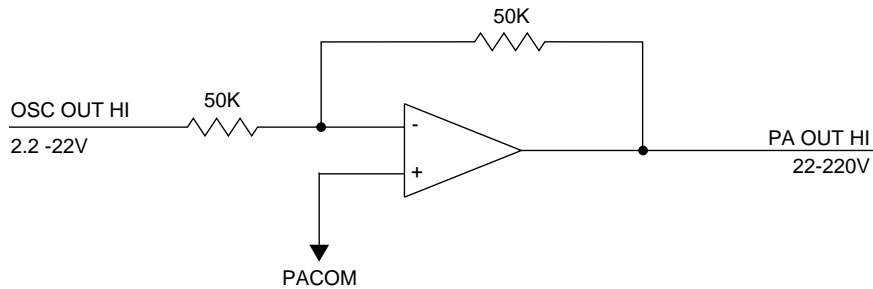

Figure 5-33. Power Amplifier with 5700A Set to 22V at 1 kHz
2. Set the 5700A to 22V at 1 kHz, operate. This configures the Power Amplifier assembly as an amplifier with a gain of -10 as shown in Figure 5-33. Check the input for the correct voltage. Using a DMM, measure the ac voltage at TP3 and verify it is $2.2V \pm 5\%$. If this voltage is incorrect, check relay K10A and its drive circuit. Next, measure the output of the Power Amplifier. Using a DMM, measure the voltage at TP6 and verify it is 10 times that measured at TP3 $\pm 5\%$. Also measure the dc offset at TP6 and verify it is less than 10 mV. If this voltage is incorrect, proceed with step 3. If the output voltage is correct skip to step 8.